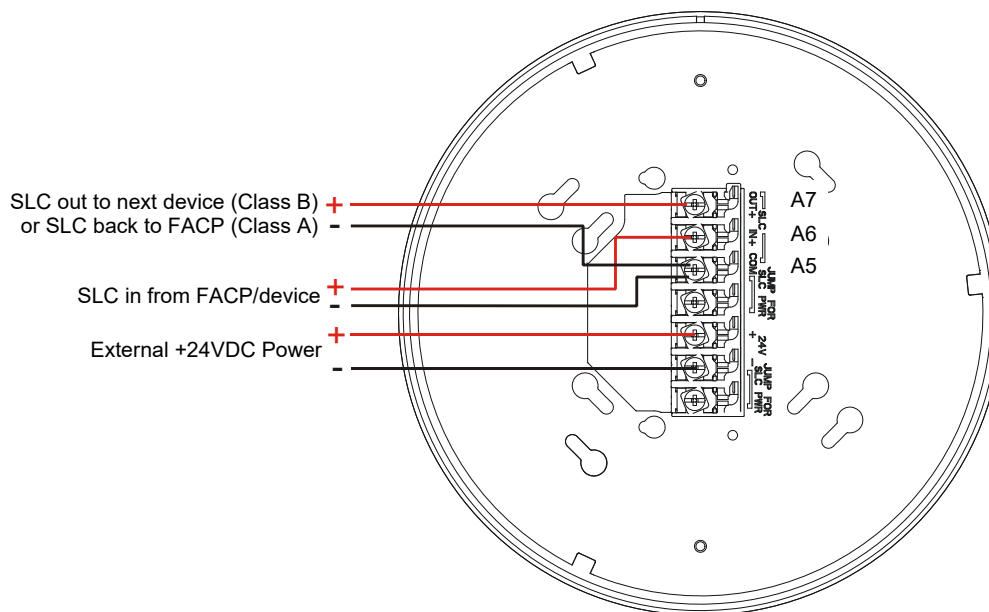

Figure 10.15 FWSG(A) Wiring Diagram, Powered by External 24 VDC Power Source
The FWSG(A) provides isolation of short circuits of the SLC in Class A installations. SLC connections are power-limited by the panel. +24VDC must be power-limited by the source. Figure 10.15 shows typical wiring of a Wireless Network Gateway connected to an SLC when power is supplied by an external, regulated 24 VDC power supply, UL-listed for fire protective service.